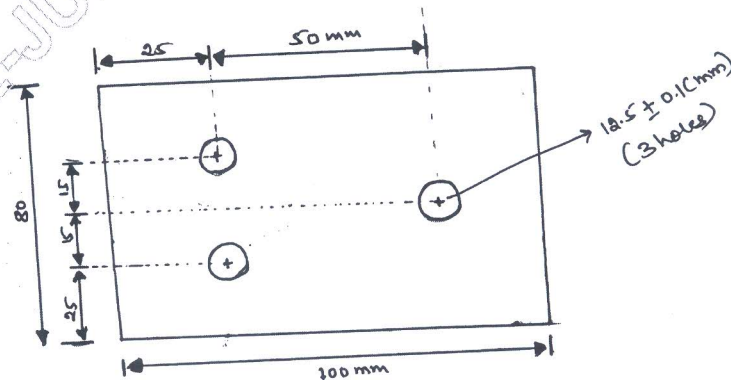

Fig.Q10(b)
b. Prepare the manual part programming to drill the holes for the part shown in the Fig.Q10(b) below. (08 Marks)